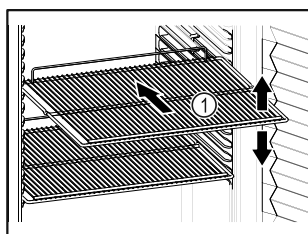

Fig. 57
- ❑ If there are adjustable shelves Fig. 57 (1), position them as required.